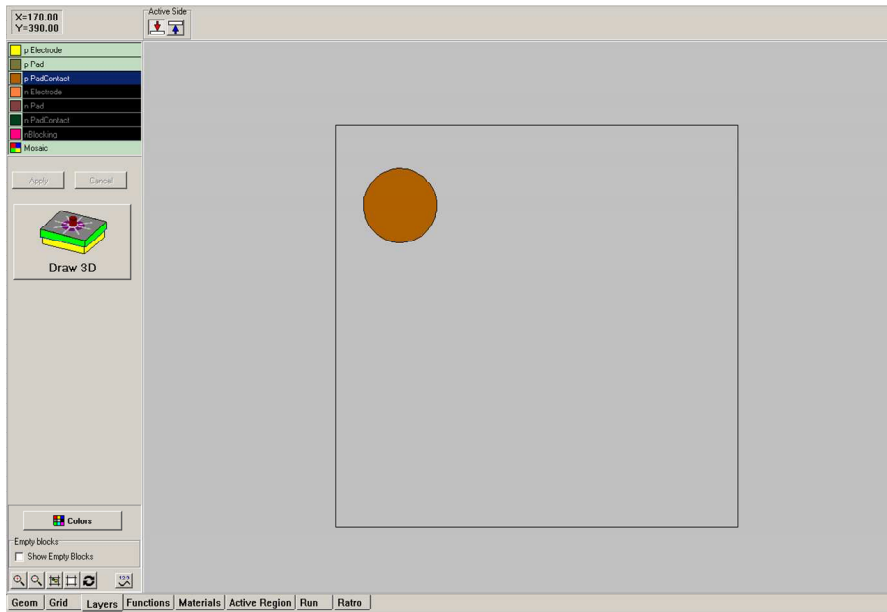

Fig. 30
**p-wire.** Area of the electric contact of the pad on p-electrode (see Fig. 30) where electric potential equals to the applied voltage. This layer should lie inside the p-pad.